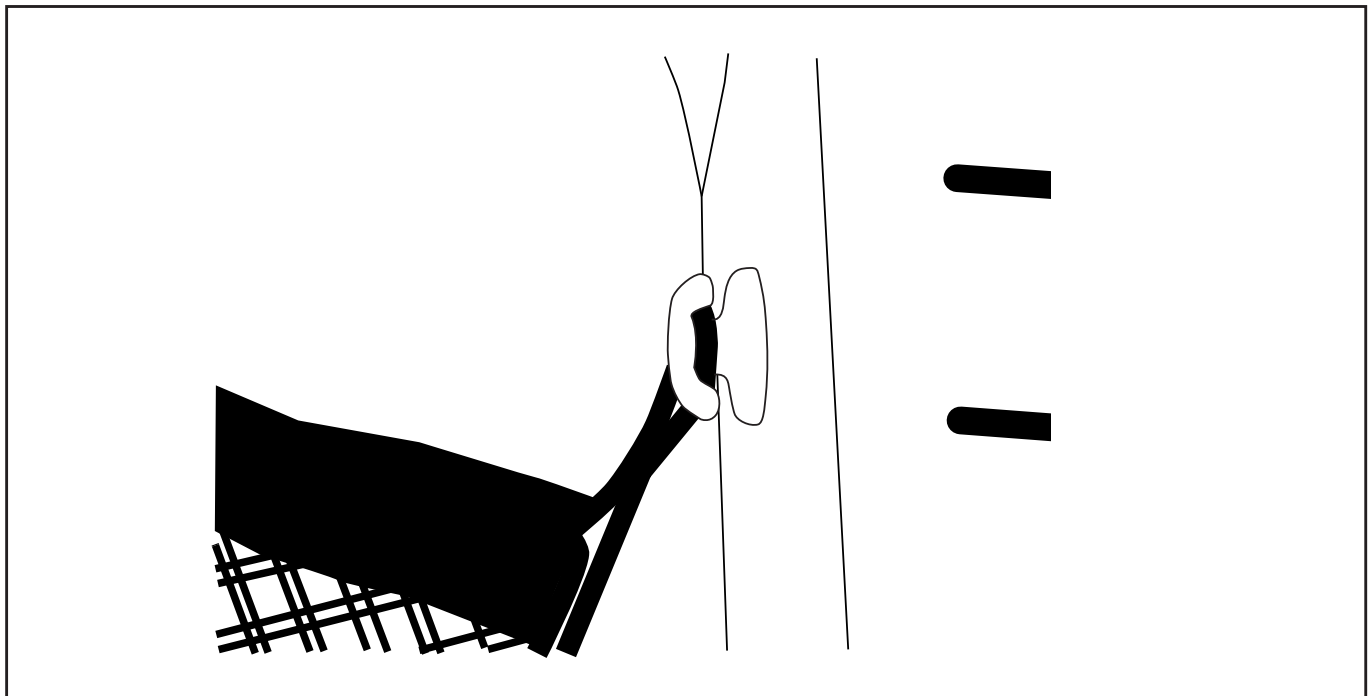

Fig. 13
14. Attach net loops to T-anchors (Fig. 13).